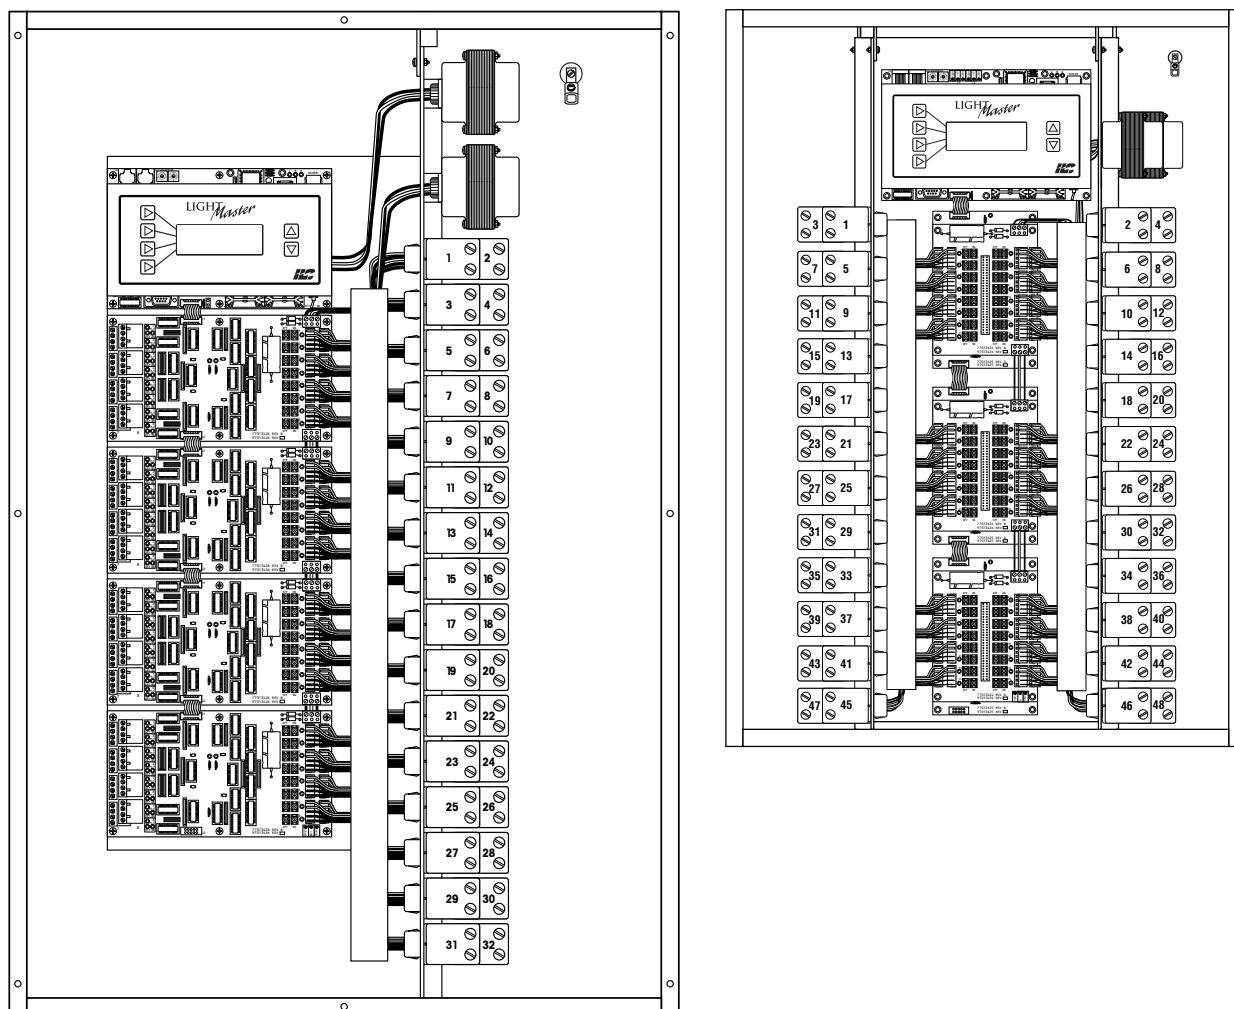

Figure 1.6 – LightMaster 32 and LightMaster 48DS
1.1.4 I/O Board(s) – Each I/O board adds eight (8) switch inputs and relay outputs. The LightMaster double-sided version has 16 relay outputs per board and no switch inputs. Both inputs and outputs are optically isolated. Additional boards can be added to the appropriate size enclosure to provide a controller capacity of up to 48 switch inputs and 48 switch relay outputs. (See Figure 1.6, which illustrates a LightMaster 32.) Major components include:
There are limitations to the distance data can travel over CAT-5 cable without loss, and distance limitations due to voltage drop associated with cable length and number of devices on the LightSync data line. These limitations are addressed by the addition of a Power Supply Repeater, Power Supply or LightSync Hub (see Figure 1.6), depending on the application. The specific use of these devices depends on the project layout.